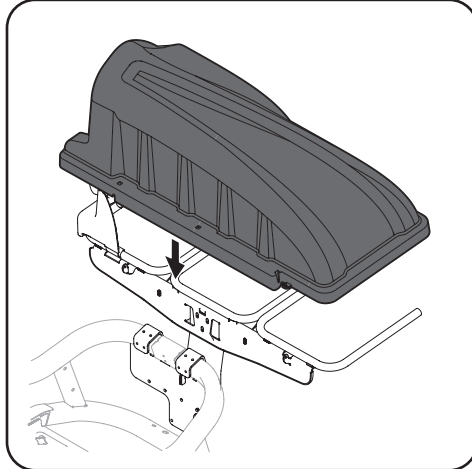

Figure 4-16
4. Install the bagger cover onto the bag support assembly, as seen in Figure 4-16. The plastic cover goes inside the two mounting tabs.